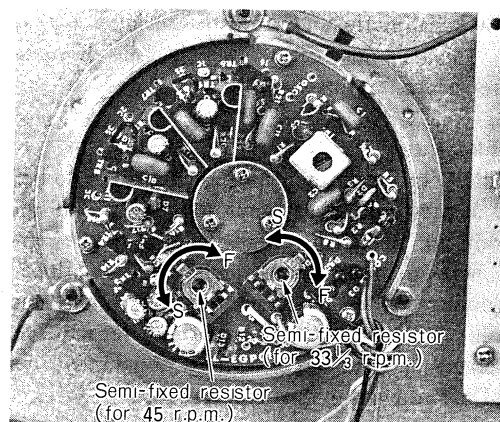

Fig. 4
- (1) Position the power source/speed change-over lever to 33 or 45.
- (2) Rotate the pitch control knob and stop it the middle position.
- (3) Adjust the semi-fixed resistor (for 33-1/3 or 45 rpm) with a screw-driver so that the stroboscope stops. (Fig. 4)